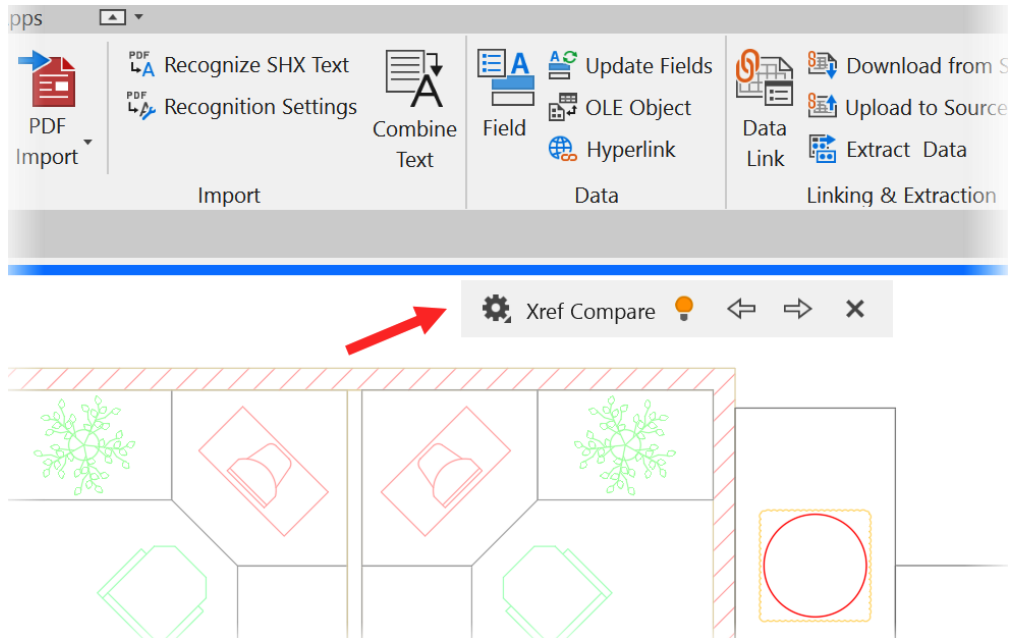

Figure 14.22: The Xref Compare toolbar in Xref Compare mode
You will now see that you are in a similar interface mode as **DWG Compare** in previous sections. This time, you are in **Xref Compare**, comparing an attached Xref file (Landscaping\_REV1) to another file that might be used as an Xref (Landscaping\_REV2). Note that the toolbar reads **Xref Compare**, not **DWG Compare**, this time around, as shown in *Figure 14.22*.
8. Like DWG Compare, you can adjust the Xref Compare settings by clicking on the *gear wheel* icon on the toolbar, as shown in *Figure 14.22*.